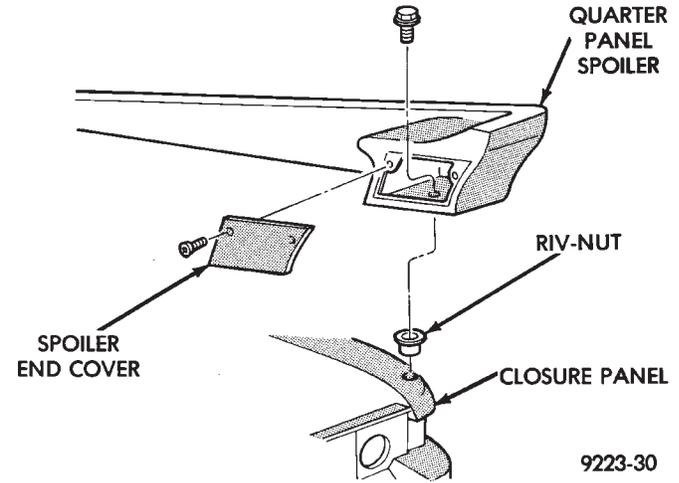

Fig. 38 Quarter Panel Spoiler
REMOVAL (FIG. 38)
- (1) Remove access cover from lift gate opening end of quarter panel spoiler.
- (2) Remove bolt holding spoiler to tail lamp closure panel.
- (3) Remove quarter trim panel.
- (4) Remove nuts holding spoiler to quarter panel from behind quarter panel above rear wheelhouse (Fig. 38).
- (5) Separate spoiler from vehicle.